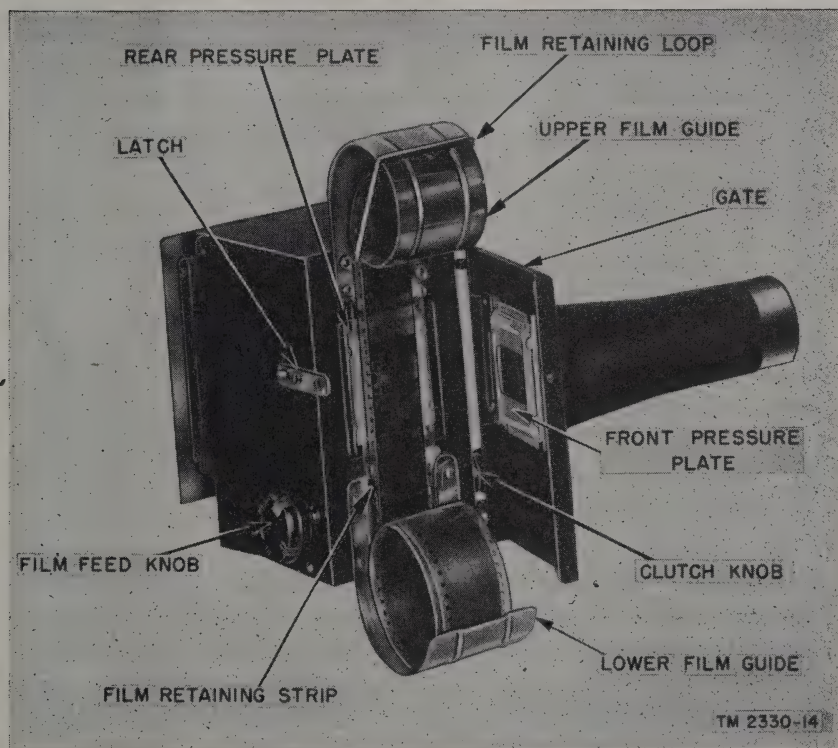

Figure 4. Film strip attachment.
8. Film Strip Attachment (fig. 4)